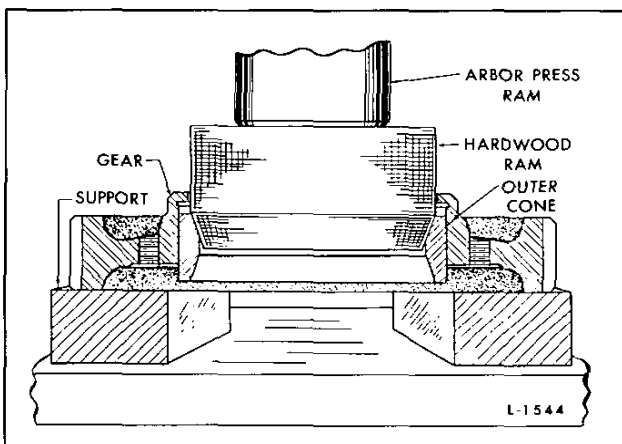

Fig. 6 - Hardwood Ram for Pressing Outer Bearing Race from Gear
4. Tap the bearing cups and spacer (current gear) or bearing cup (former gear) from the idler gear by using a brass drift alternately at four notches provided around the shoulder of the gear (Figs. 6 and 7).